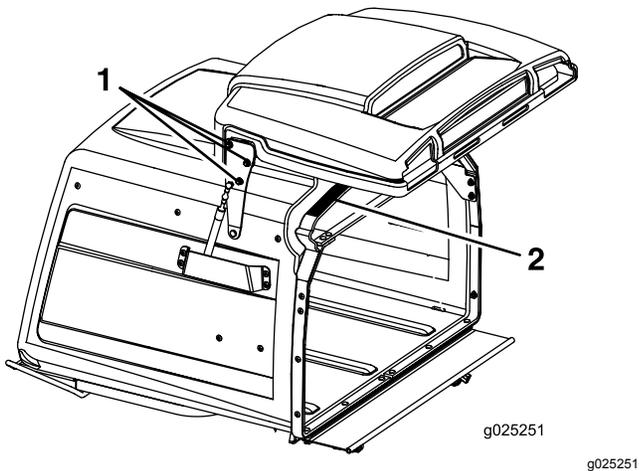

Figure 66
3. Loosen the 6 door hinge nuts (Figure 66).
4. Open the door and place a 3/8 inch (9.5 mm) rubber strip or 3/8 inch (9.5 mm) diameter hose between the hopper and the hopper door (Figure 66).